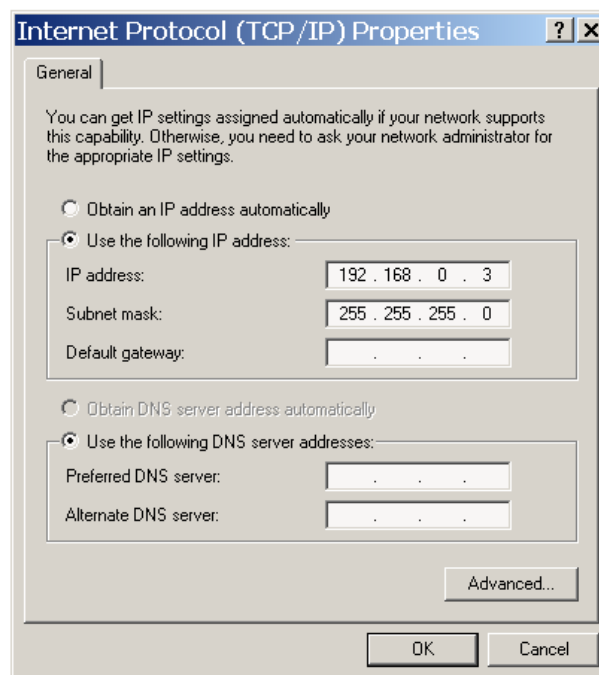

Figure 51: TCP/IP Priorities Dialogue Box
4. Enter the information shown above in **Figure 51** and click “OK” to accept the changes.
6. Continuing from item 4 and **Figure 51**, on page 43, enter the required information.